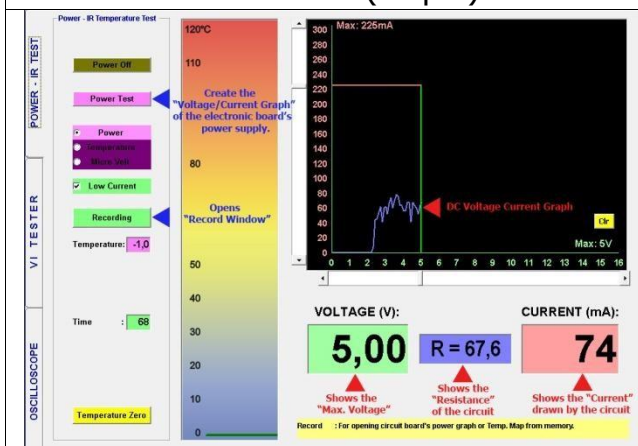

Figure 18: Generating the DC VI Graph (Step 3)
3. The "Power Test" Button is clicked to energize the electronic circuit board. The "DC Voltage - Current Graph" is generated from "0 Volt to 16 Volts in 100 mV steps. (Figure 18)